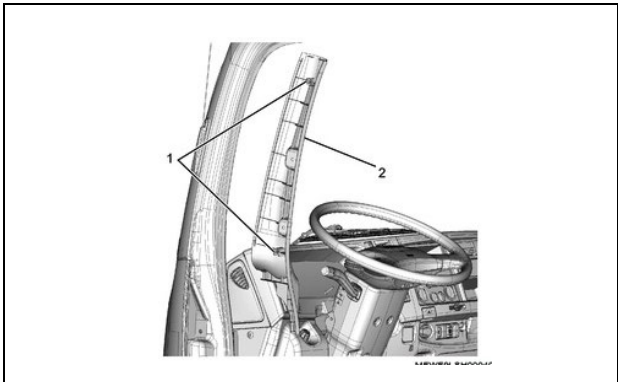

Figure 43
38. Install the front pillar trim cover and reinstall the front door weatherstrip. (See Figure 43.)
43. When the red gear appears, press (+), When the green connectors appear, press (M). Move the turn signal lever to turn left, and then to turn right, verify double arrows appear on the display each time as shown. (See Figure 43.)